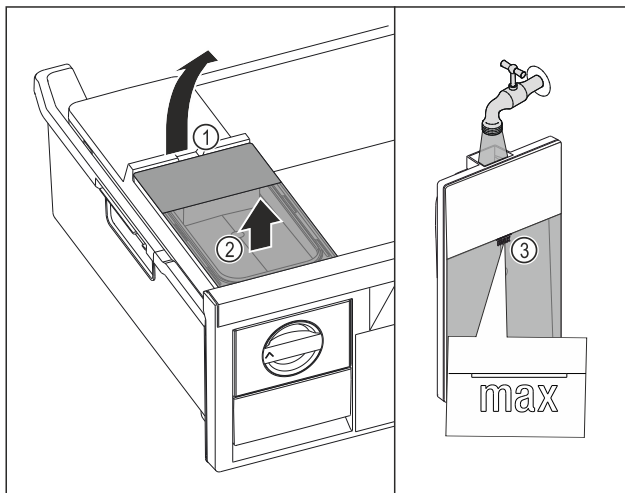

Fig. 123
- Lift the water tank at the recess Fig. 123 (1).
- Remove the water tank by lifting it upwards. Fig. 123 (2)
- Fill the water tank with drinking water up to the mark Fig. 123 (3).